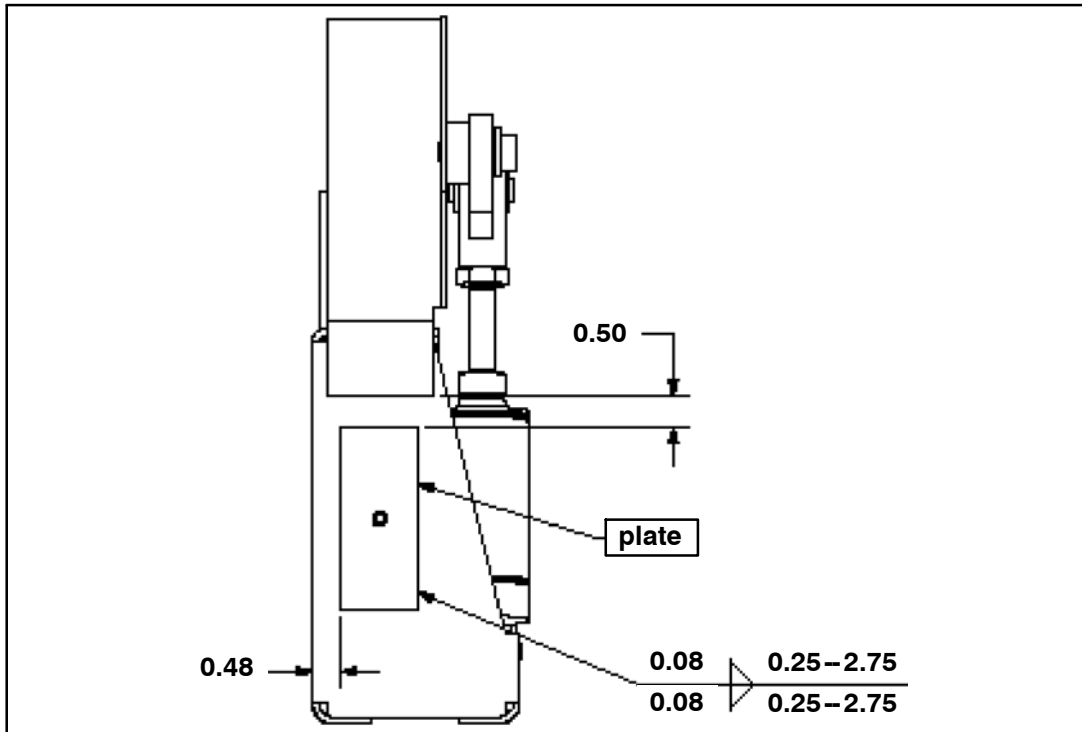

Figure 25.
32. Position plate, p/n 03-31-3259, as per dimensions shown in Figure 25. Weld plate on existing bracket assy-cylinder upper as per specifications shown in Figure 25